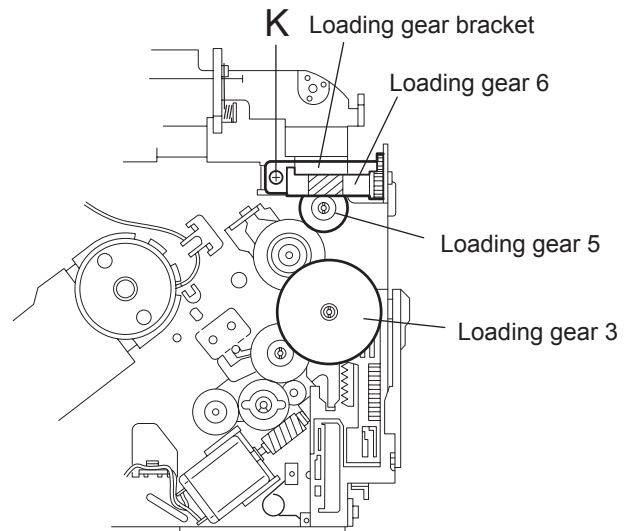

Fig.35
### 3.2.16 Removing the loading gear 5, 6 and 7 (See Figs.35 and 36)
- Pull out the loading gear 3. (See Fig.35.)
- (1) Pull out the feed gear.